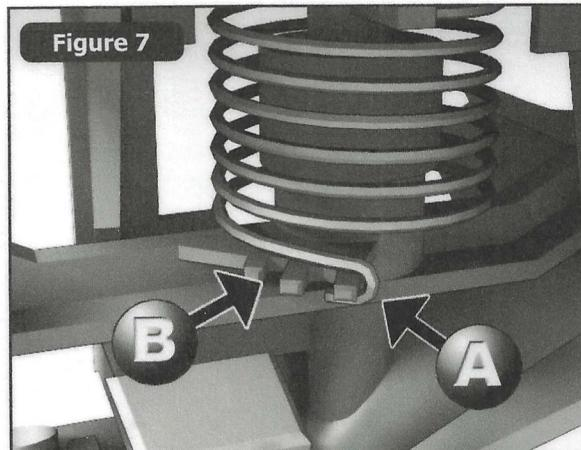

Figure 7
**Note:** When using the orange or red low-flow nozzles, move Adjustment Spring to the **Figure 7, B** position for best operation.